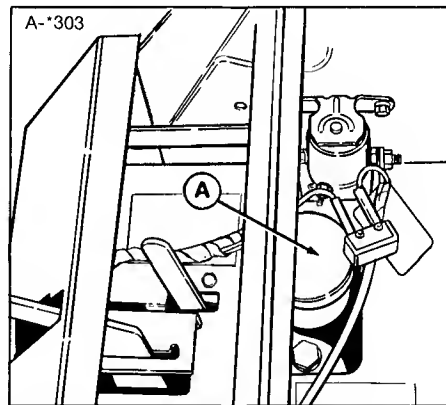

Figure 12. Hydrostatic Reservoir
3. The fluid level is visible in the reservoir (figure 12) without removing cap. The level should be at COLD level mark. If not, go to step 4.